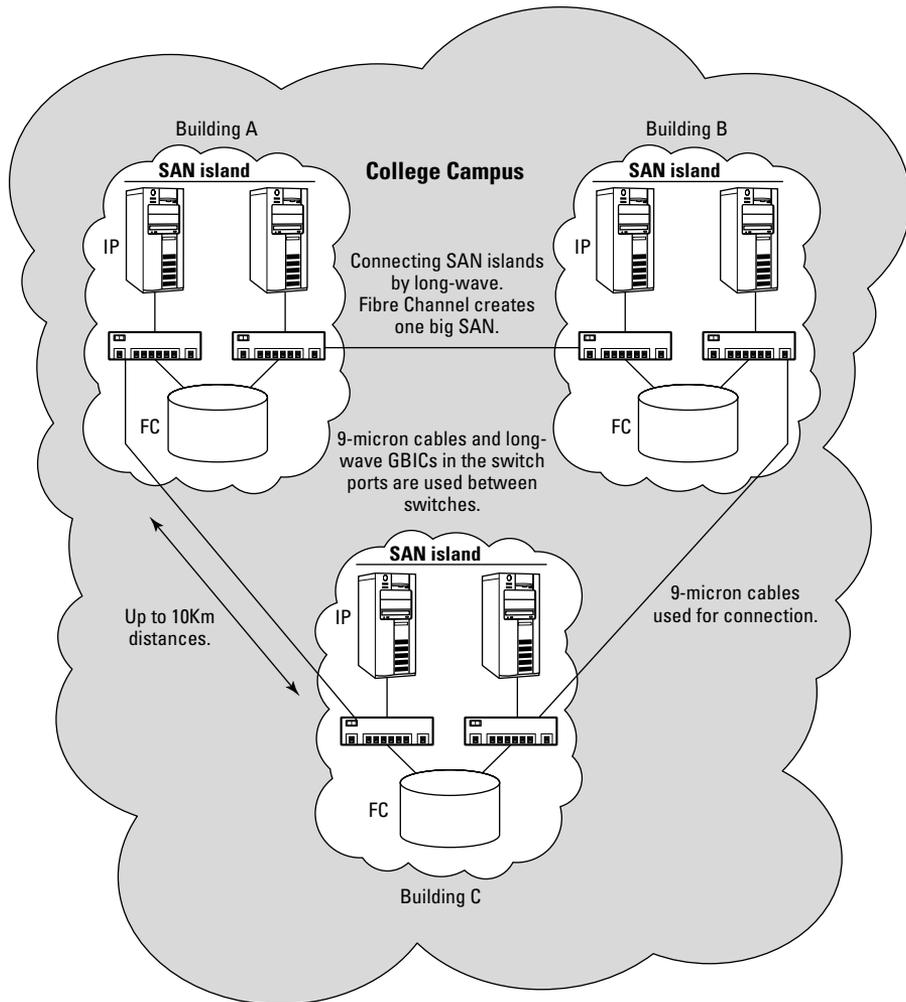

Figure 8-6:
- ✓ **Long-wave fiber connections between switches:** If you use 9 μ m Fibre Channel cables with long-wave single-mode lasers between switch ports, the distance between switches in a single fabric can be up to 10 km. You can run 9 μ m single-mode Fibre Channel cables directly between the switches to each location, as shown in Figure 8-6. Because you need a higher-powered laser to connect over a long distance, long-wave Gigabit Interface Converters (GBIC) are used in the ports that connect the switches. Better bring your wallet, though; those long-wave GBICS and 9 μ m cables can be fairly expensive!